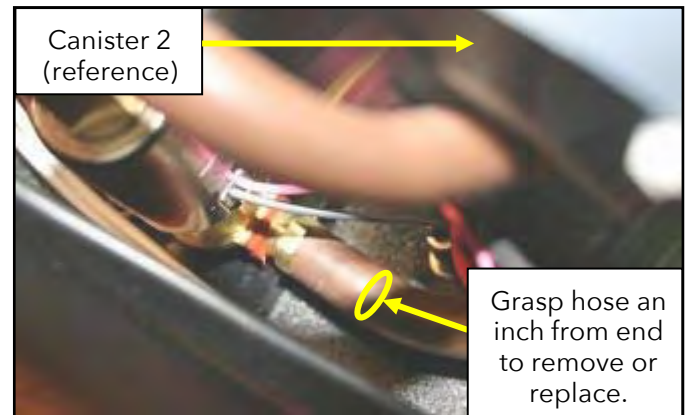

Figure 9. COMPRESSOR ASSEMBLY AIR HOSE.
- Using a tubing wrench or vacuum tube pliers, grasp the compressor air hose (in front of canister 2) about an inch from the end (refer to Figure 9), then pull gently to disconnect hose from fitting. With the mounting base and air hose disconnected, remove the compressor from the chassis.